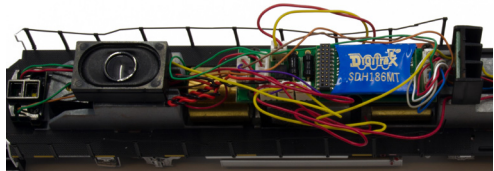

Figure 3: Carefully plug in decoder. Shown with optional SP2615BC speaker.
3. Insert the 21MTC socket onto the exposed pins. The black socket and the decoder text should be facing up. The socket is indexed so it will only fit on in one configuration. (**Figure 3**) Seat the decoder firmly on the pins.